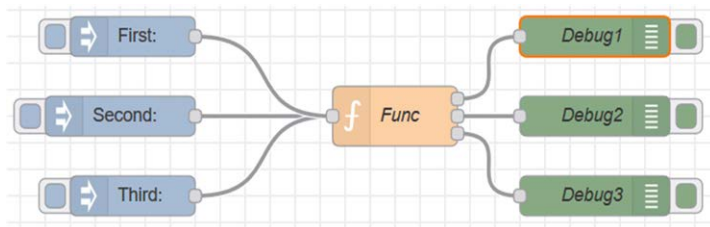

Figure 4.34 Join all the nodes
- Join all 7 nodes as shown in Figure 4.34, click Deploy